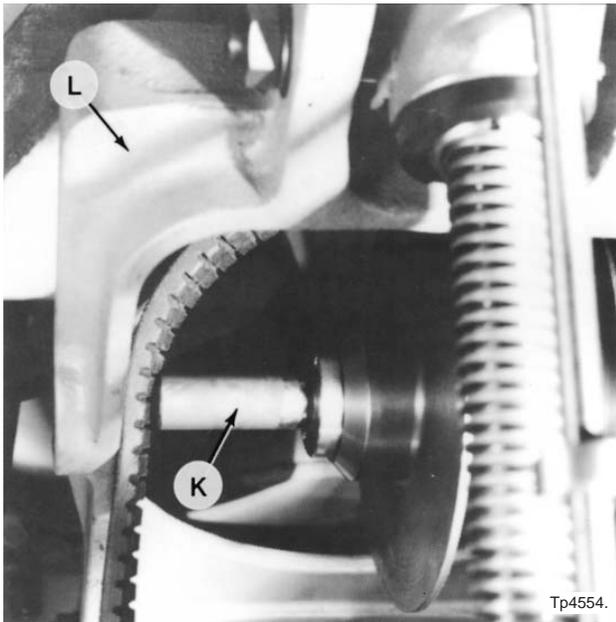

Figure 6.7 - Belt Removal Over Countershaft
18. Slide countershaft assembly "K", Figure 6.7, to the extreme right and remove the spindle belt over the left end of the countershaft.